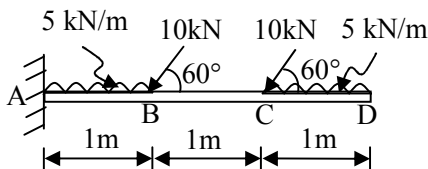

Fig. 13 Que 5(c) OR
- (c) Calculate shear force, bending moment and axial thrust at points A, B, C and D for the beam shown **Fig. 13**. Also plot neat shear force, bending moment and axial thrust diagrams indicating values at above points. **06**